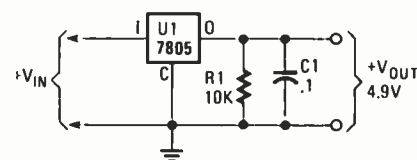
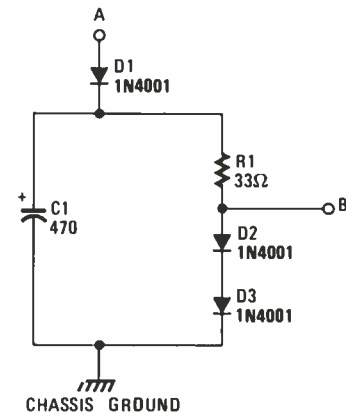

Fig. 8—This circuit, built around the 7805 5-volt regulator, can power low-current (1 amp or less) 5-volt circuits, such as TTL or CMOS based projects.
Fig. 5—Originally designed as a battery replacement in a VTVM, the Battery Substitute can be fed from an ordinary 6.3-volt filament transformer.
what makes this his favorite, is that it is also his first effort at independent circuit design. (See Fig. 8.) He's using a 7805 voltage regulator and Dave admits to one flaw, in that the problem is that 9-volt transistor radio batteries usually don't last very long. However, this unit allows one to transport a TTL circuit away from the workbench and it also can serve as a temporary 5-volt power supply until you get around to building something a little more suitable.
Fig. 8—This circuit provides a combination of pulse and DC power as shown graphically in Fig. 5. The main-pulse output is used to provide a full-voltage pulse while the average-pulse output is used to provide the DC component.
4. The circuit shown in Fig. 8 provides a combination of pulse and DC power (See Fig. 5). The main-pulse output is used to provide a full-voltage pulse while the average-pulse output is used to provide the DC component. The two signal diodes in this circuit cause the output to be the higher of the two signals, so the main-pulse output always provides the full "on" part of the pulse while the average output provides the low (or "off") part of the signal. This signal may reduce the heating of some motors.
David R. Bell, of Reisterstown, MD sends us a brief letter, with a brief explanation, and a brief diagram. (See Fig. 5.) Well, they say that Sampson was a piker—he slew a thousand men with the jawbone of an ass, and that millions of sales are killed each day with the same weapon!